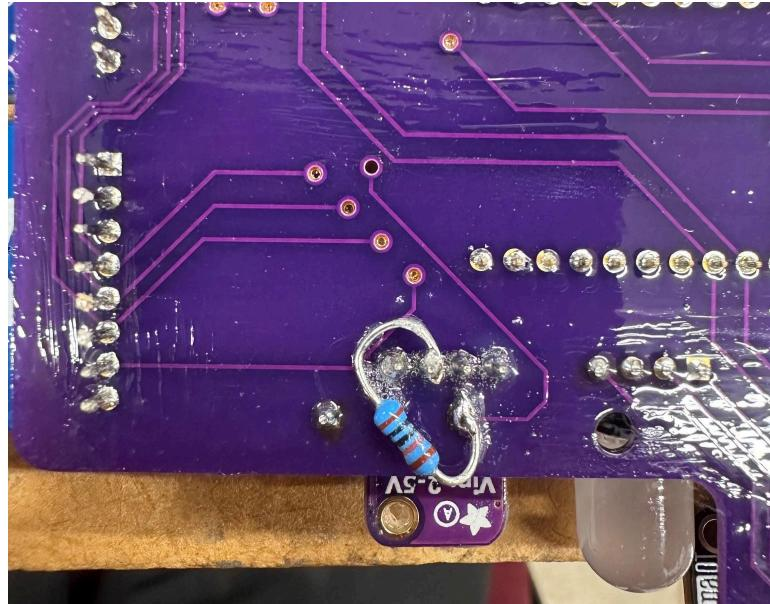

Figure A6:  $10\text{k}\Omega$  resistor used for battery indication on the back of PCB
- For battery indication capabilities of the tethersonde, an additional  $10k\Omega$  resistor is added on the back of the PCB to create a voltage divider. Connect one end of the resistor to the ground pin of the 5 V booster (TPS61023) and the other end to the lead downstream lead of the  $10k\Omega$  resistor connected on the front of the PCB. Refer to Figure A6 for the correct placement of the additional  $10k\Omega$  resistor on the back of the PCB.